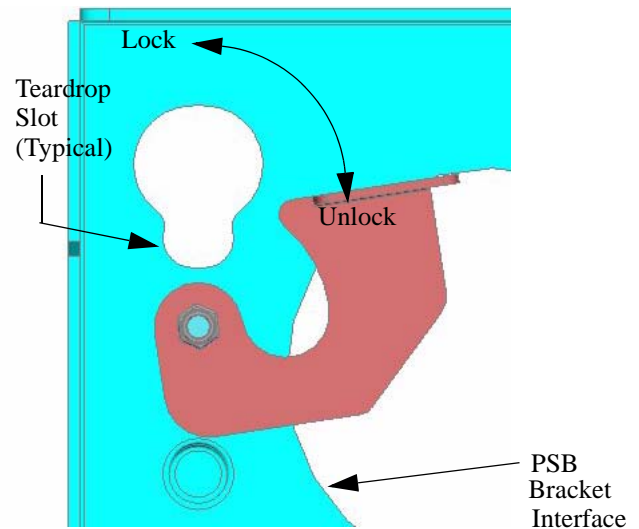

Figure 6. Locking Device
1. Make sure power is not supplied (turned off) to the display and the locking device is in the unlocked (down) position (see Figure 6) before attempting to mount the display.
4. Secure the mounting bracket to the PDR by completely engaging the locking device (see Figure 6).
2. Release the locking device (see Figure 6).